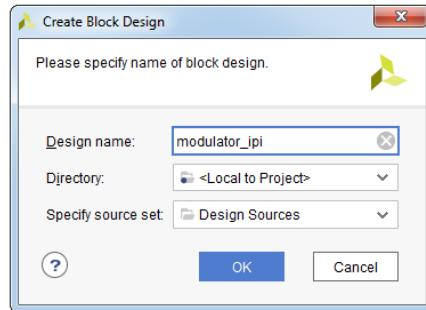

Figure 12.39: Create Block Design dialog box
- In the **Create Block Design** dialog box, specify **modulator_ipi** name of the block design in the **Design name** field and click **OK**, see Figure 12.39.